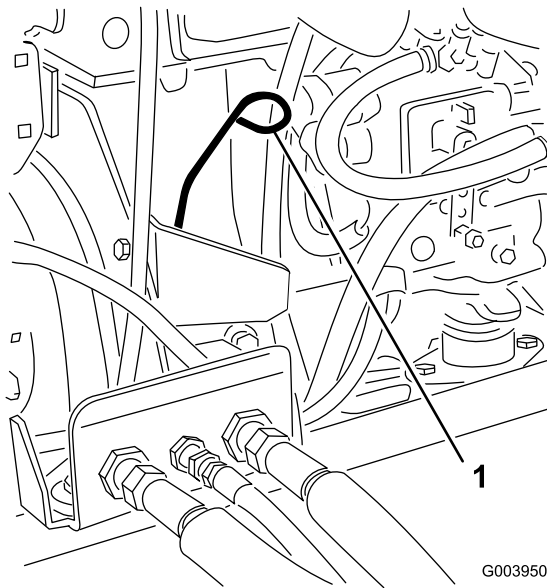

Figure 19
3. Remove the dipstick, wipe it clean, and install it (Figure 19).